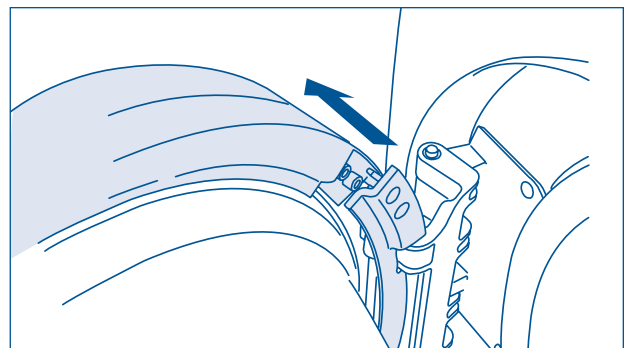

Figure 2-11.
3. While supporting the weight of the door with both hands, separate the door from the hinge. (See Figure 2-11)